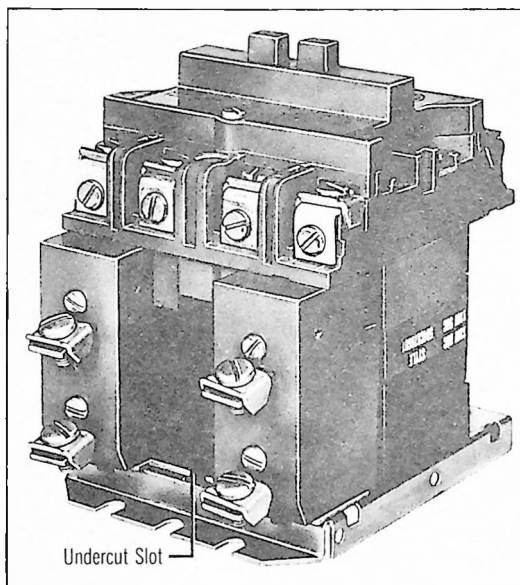

Figure 1 - Pole Adders Mounted on A/200 Contactor
As shown in Figure 1, the pole adders mount easily in the recesses provided on the load side of the contactor. All pole adder kits are identified by the catalog number stamped on the molded housing. Additional pole adder kits may be ordered as follows:
2. Slide the pole adder unit into the prepared recess on the load side of the contactor such that the extension of the pole adder base plate slips into the undercut slot of the molded base of the contactor. See Figure 1.